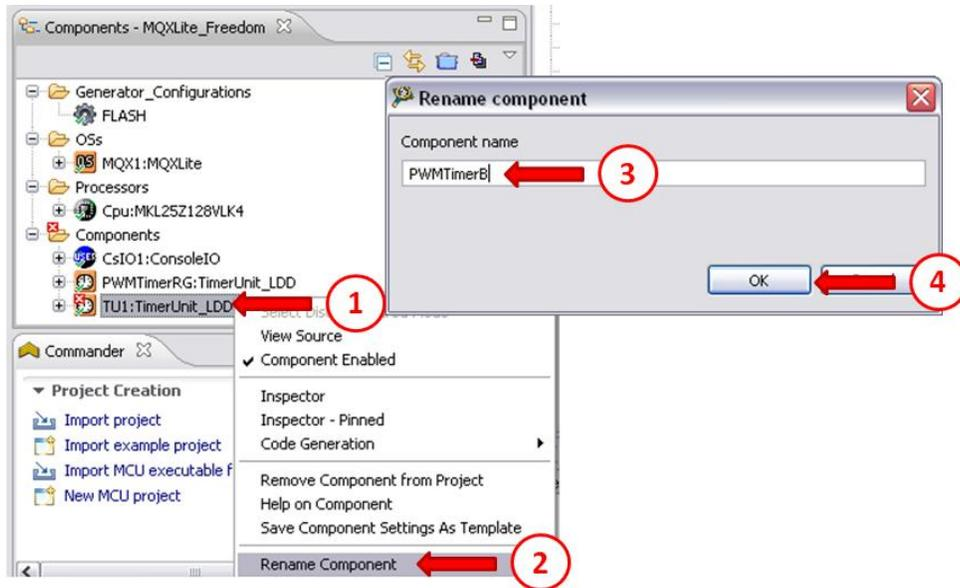

Figure 27. Modify component name.
- It is necessary to change the name to standardize the source code. To modify the name of the component give a right click on it and then type the “PWMTimerB” name. This name means that this PWM controls the Blue LED inside the RGB LED. Figure 27 shows the details.